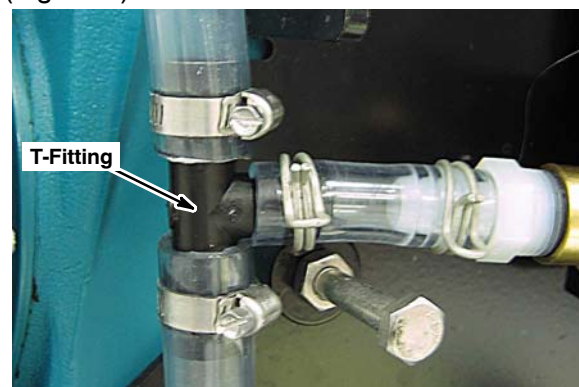

Fig. 4
8. Using the T-fitting and clamps supplied with the kit, connect the hoses as shown (Figure 4).